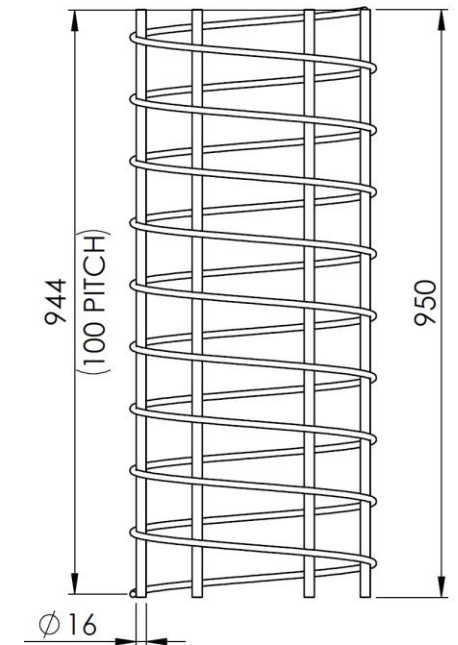

Figure 24
- Line Post Foundation Reinforcing Cage – PAL09P400003 (Fig. 24)